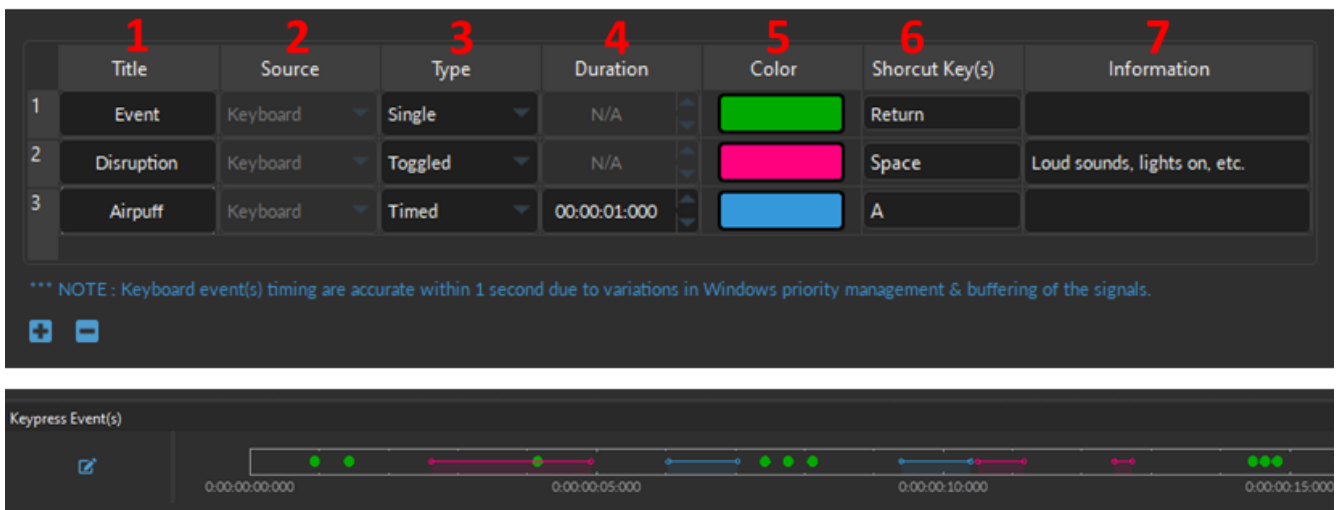

Figure 7.26: Channel(s) configuration window, Keypress Event(s)
The following are the configurable parameters of a **KeyPress Event**, per Fig. 7.26:
6. The **Shortcut Key(s)** can be any keyboard key, including space bar, enter, backspace, any letters, number and special characters (*, !, ? etc.). To specify the key, click inside the *Shortcut Key(s)* cell, then press the keyboard key of choice. If a key was properly set, it will appear in the *Shortcut Key(s)* cell (as in Fig. 7.26, column 6).